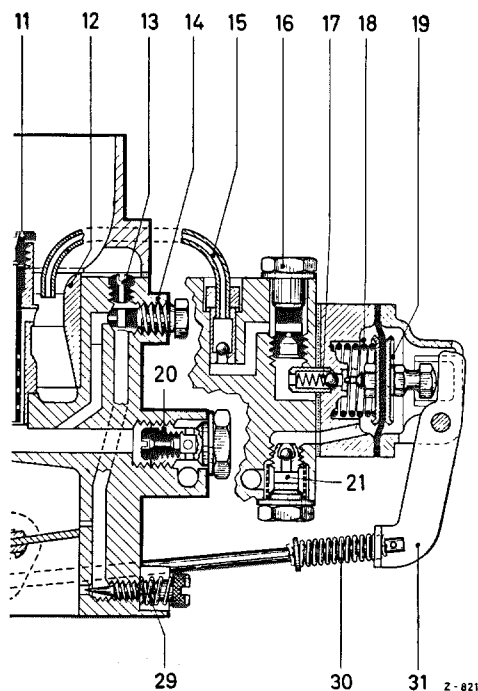

Fig. 07-0/10
During the injection, ball valve (21), which operates as a check valve is closed. When the accelerator pedal moves back, diaphragm spring (18) will push diaphragm (19) back. Now, ball valve (21) operates as a through-way valve while the ball valve in the injection tube holder (15) operates as a check valve and prevents the penetration of air from the carburetor suction canal into the pump system (Fig. 07-0/10).